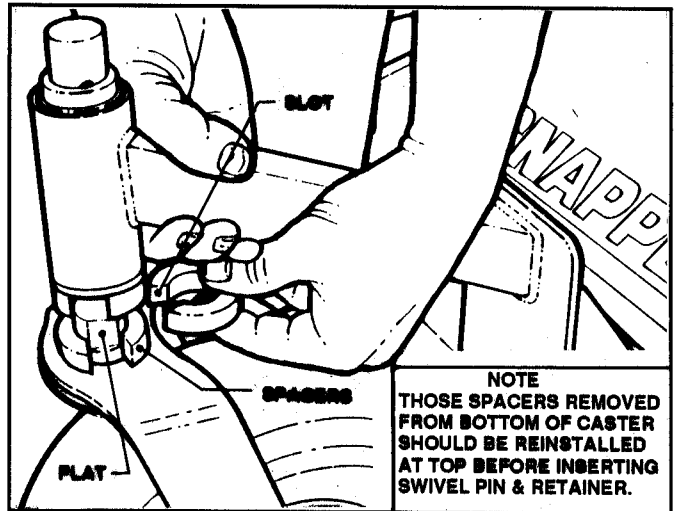

FIGURE 29
2. Lift up on **CASTER Support** while adding or removing bottom spacer. See Figure 29.